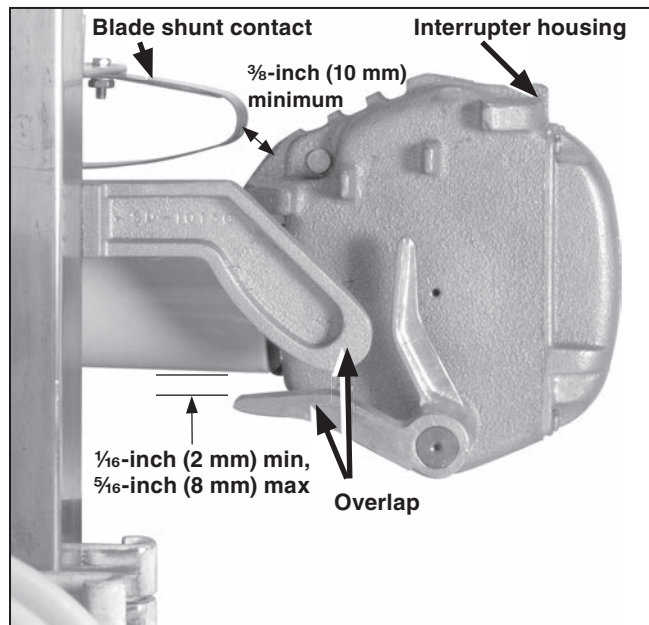

Figure 37. Blade assembly in fully closed position.
- (b) With the blade assembly in the fully closed position, verify the minimum clearance between each blade shunt contact and its respective interrupter housing. See Figure 37. The shunt contacts may be bent as required to provide this clearance.